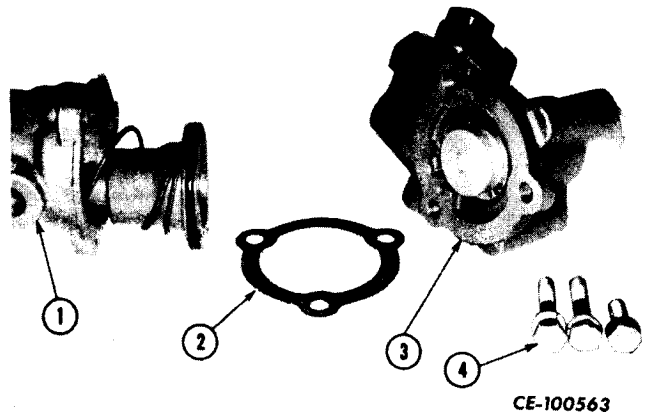

Figure 13-30
Punch mark section and body for assembly reference. Carefully remove hardware (4, Fig. 13-30) securing section (3) to body (1). Remove gasket (2).